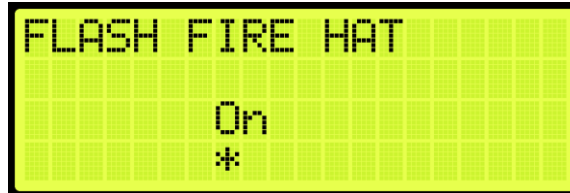

Figure 554: FLASH FIRE HAT Menu
5. From the FLASH FIRE HAT menu, scroll and select On (See Figure 554).